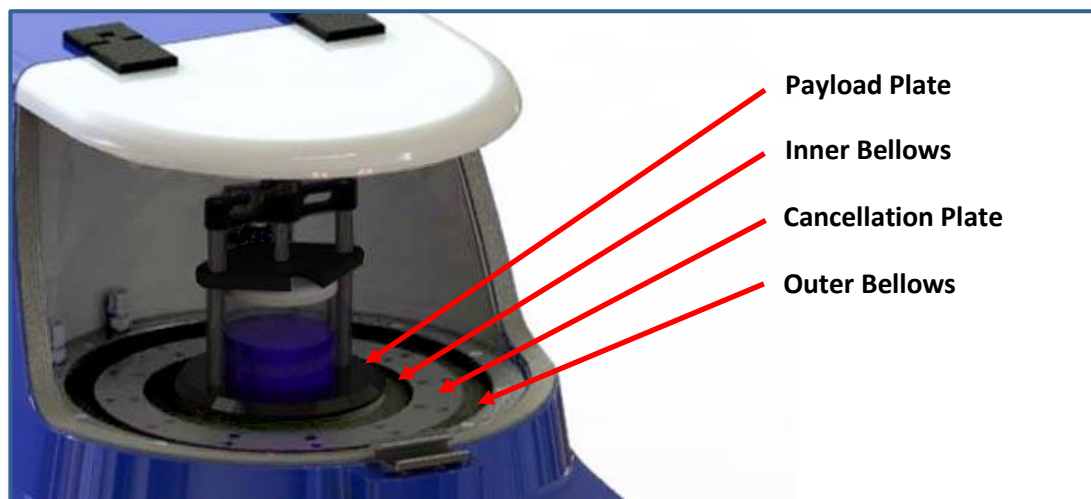

**Figure 4 Payload Plate Mounting Hole Locations**
*Only* use the Vessel Holder Mounting Holes, shown in Figure 4, to mount the Vessel Holder to the LabRAM I. Never use the mounting holes for mounting any other equipment to the LabRAM I.